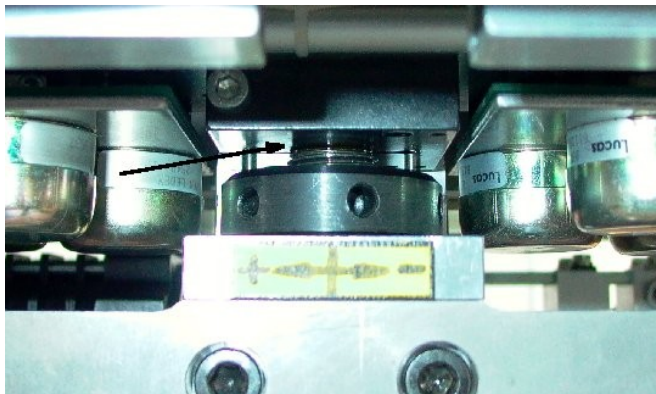

Fig. 2.9
- Take care that plate of the embossing head that is fixed with screw 'B' fits complete to the elevating screw 'D' (detail see Fig. 2.9 at marked position)
If it is not in the middle, the sensors F1 or F2 (according which format is chosen) must be moved a little bit. Before moving this sensors, mark the actual position. The correction mostly is less than 1/3 mm. So don't move the sensor too far from the actual position. Fine adjustment of the sensor-position can be made using the set screw 'F' (Fig. 2.9) after loosening the holding screws 'S'. This procedure must be repeated until the dots are exact in the middle of a character of the backside. After this the screws of the sensor 'S' must be fixed properly.